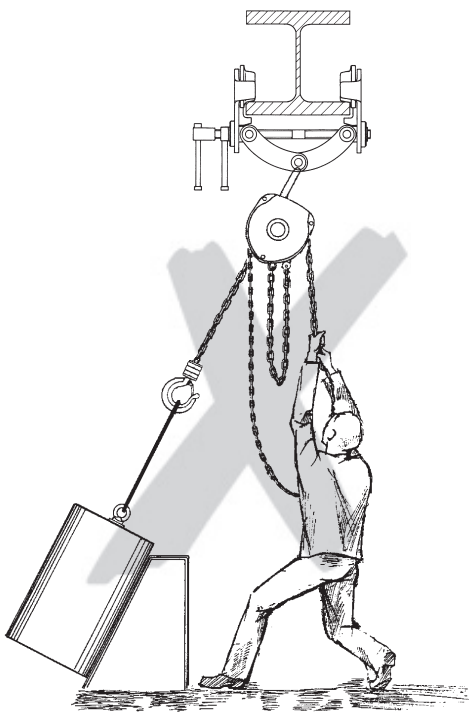
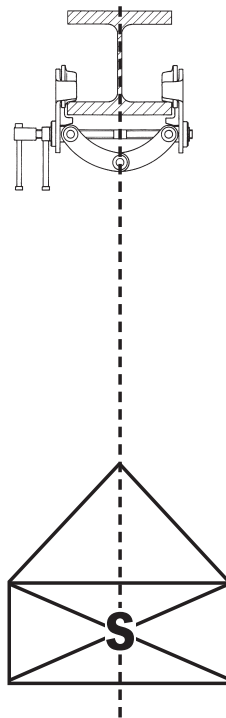

Fig. 3
Fig. 4
- Side pull, i. e. side loading of the side plates and/or the load bar (Fig. 3) is forbidden. The trolley must be perpendicular above the load at any time (Fig. 4).
The load must always be hung in the centre, thinner portion of the supporting pin (Fig. 4). Side pulling is forbidden and causes damage to the side plates, supporting pin or link plates (Fig. 3).